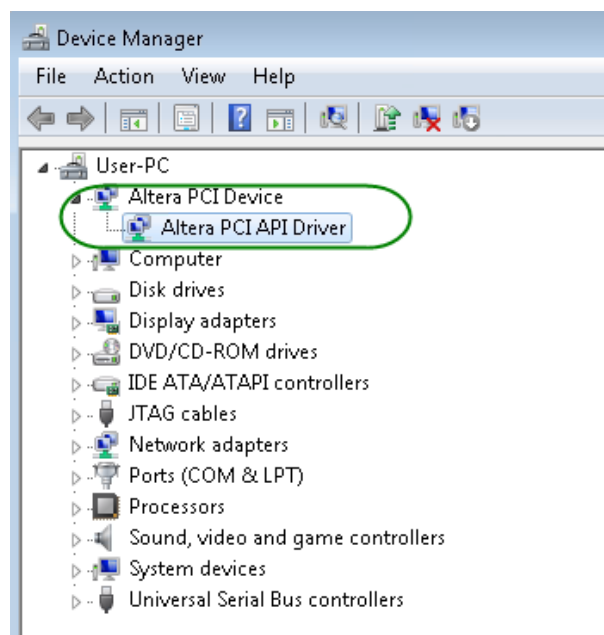

Figure 3-9 Altera PCI API Driver in Device Manager
14. Once the driver is successfully installed, users can see the **Altera PCI API Driver** under the device manager window, as shown in **Figure 3-9**.